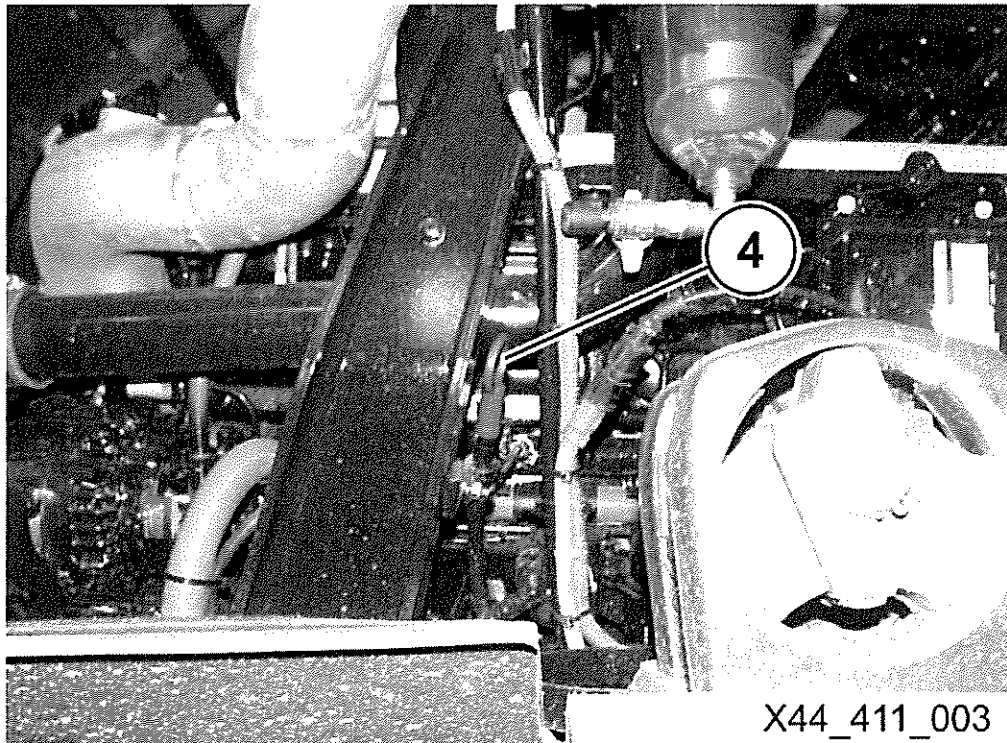

Fig 43 Engine oil dipstick
- (1) The only way to ensure a correct result in the check is to park the vehicle on a flat, level surface and ensure the engine is cold.
- (2) It is not permitted for the oil level to exceed the MAX mark. This promotes oil consumption, is uneconomical and pollutes the environment.
- 98 Refer to Fig 43. Pull the dipstick (4) out of the guide tube, wipe the dipstick clean using a lint free cloth.
- 99 Push the dipstick (4) back into the guide tube as far as it will go and then pull the dipstick out again.